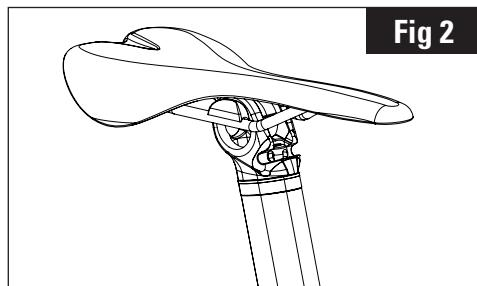

Fig 2
2. Insert the upper support (10) indicated in Fig 5.1 if you want to use a seatpost with round rails Ø7mm and the support (10b) indicated in Fig 5.2 for a saddle with oval rails. (Fig.2)